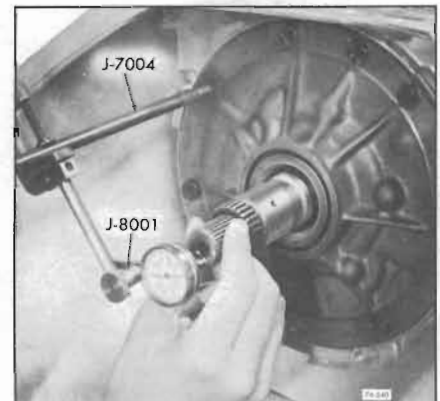

Figure 74-540
b. Install a 5/16-18 threaded slide hammer bolt or J-7004, into bolt hole in pump. See Figure 74-540.
c. Mount dial indicator on the rod and index indicator to register with end of turbine shaft. See Figure 74-540.